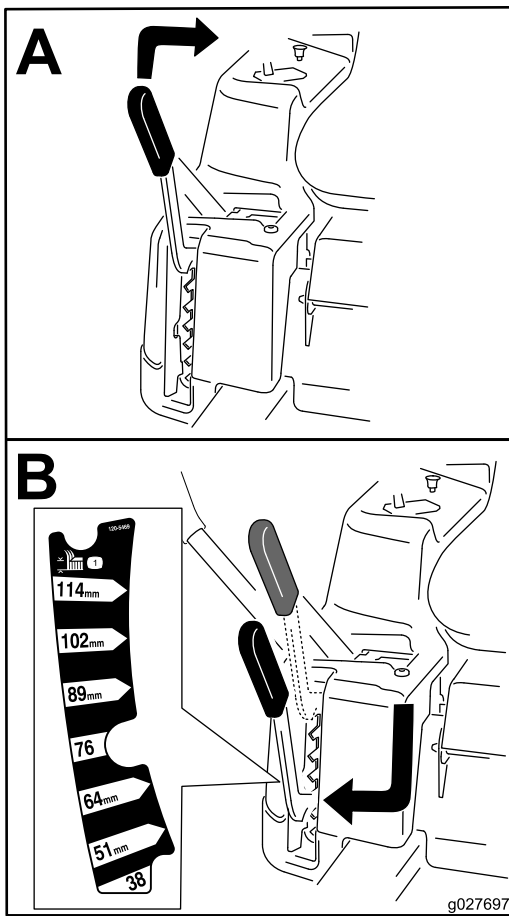

Figure 14
**Note:** The transport position is the highest height-of-cut position or cutting height 115 mm (4.5 inches) as shown in Figure 14.